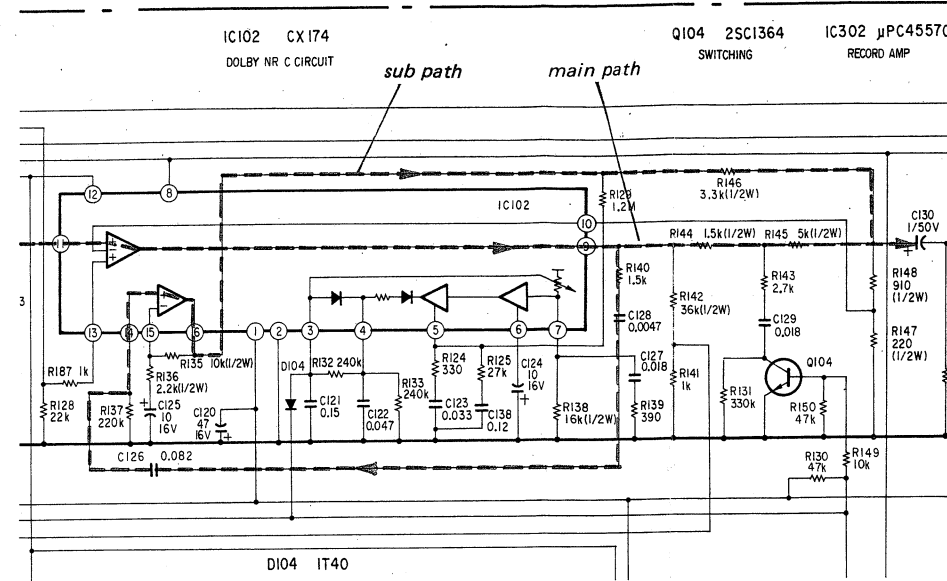

Fig. 5 Low-Level Stage Variable Filter (L-CH)
a) Variable filter (Refer to Fig. 5)